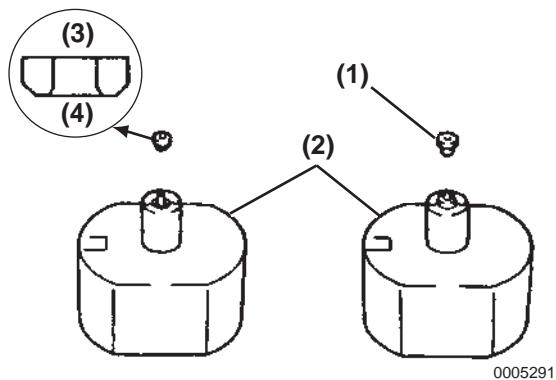

Figure 6-31
1. Install the nozzle assembly, adjusting shim selected in step 1 above and No. 2 pressure spring seat on the special tool (B), using the special tool (Figure 6-31).